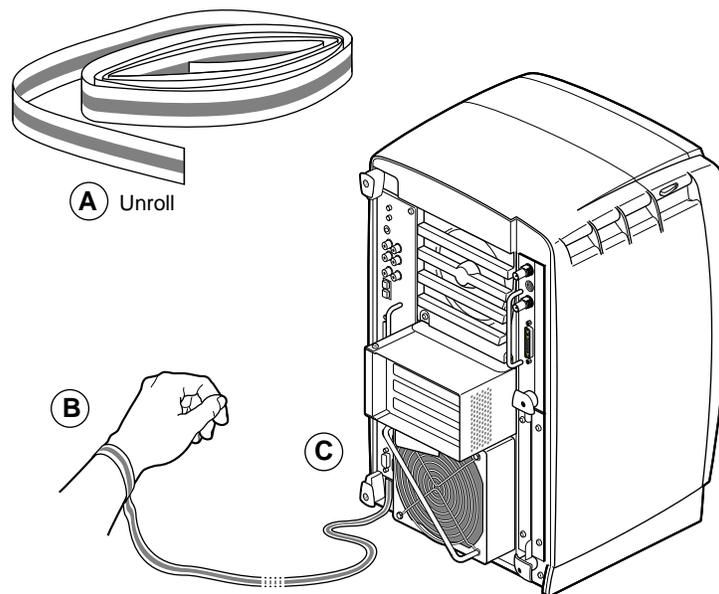

Figure 2-4 Attaching the Wrist Strap to the Chassis
1. Unroll the first two folds of the band (see A in Figure 2-4).
2. Wrap the exposed adhesive side firmly around your wrist (B), unroll the rest of the band, then peel the liner from the copper foil at the opposite end.
3. Attach the copper foil to any exposed electrical ground, such as a metal part of the workstation (C).